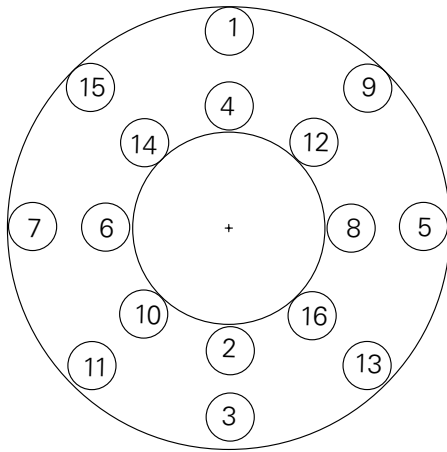

Figure 12
- Step One: For the first 16 screws, bring the initial torque of each screw up to 33% of the torque value shown in Table 15 using the tightening sequence shown in Figure 12. Install and torque the remaining screws in any reasonable crosswise pattern to 33% of the torque value shown in Table 15.
- Step Two: Repeat the sequence of torque tightening on the first 16 screws as shown in Figure 12 and bring each screw up to 66% of the torque value shown in Table 15. Torque the remaining screws in any reasonable crosswise pattern to 66% of the torque value shown in Table 15.
- Step Three: Repeat the sequence of torque tightening on the first 16 screws as shown in Figure 12 and bring each screw up to 100% of the torque value shown in Table 15. Torque the remaining screws in any reasonable crosswise pattern to 100% of the torque value shown in Table 15.